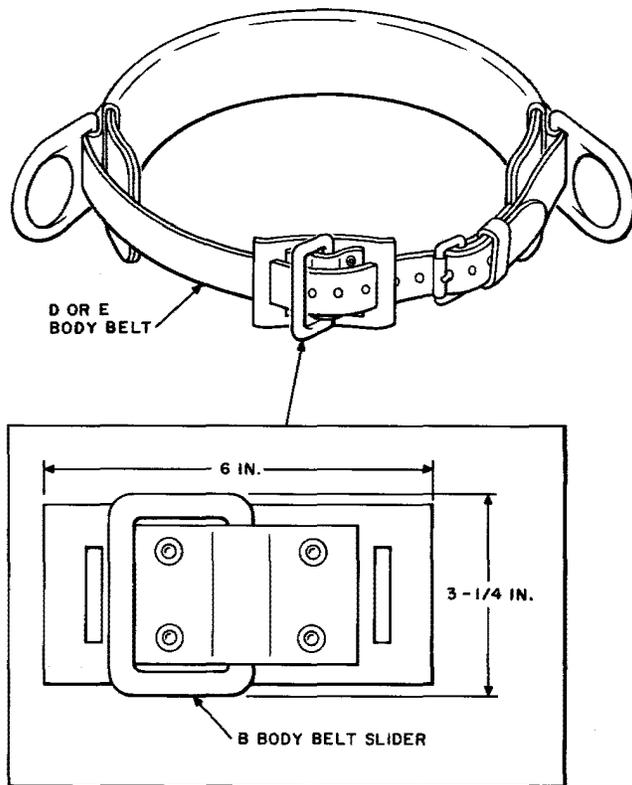

Fig. 4—B Body Belt Slider on Standard A or E Body Belt
3.05 The B Body Belt Slider (Fig. 4) is designed for use on the standard D or E fabric body belt and serves a similar purpose as the slider furnished with the Tower Body Belt. The B Body Belt Slider used in conjunction with the standard body belts will eventually replace the Tower Body Belt and slider for use on antenna supporting towers. However, there is no need to scrap existing Tower Body Belts until they are worn out, damaged, etc.